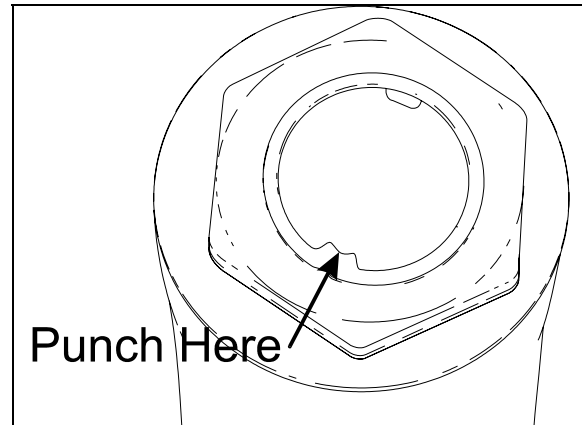

FIGURE 16: FIXING NUT PUNCH MARK 16098
3. Lock nut with sector shaft using a punch mark into the groove (refer to figure 16).